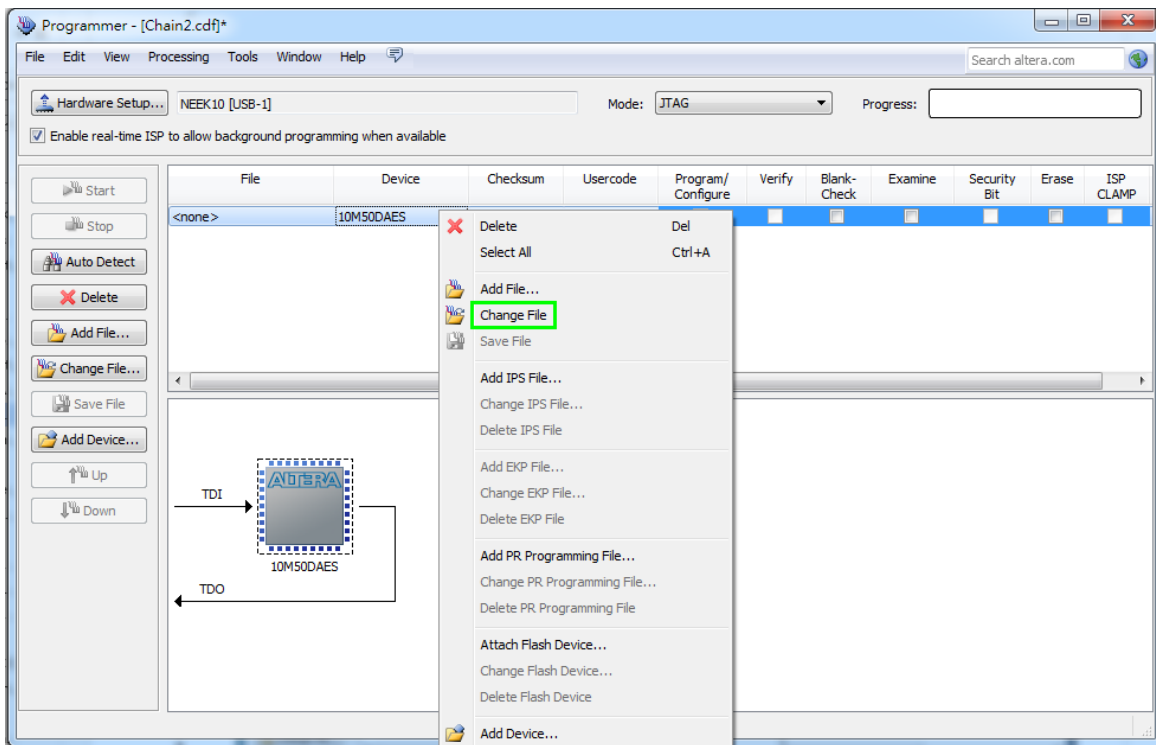

Figure 3-5 Open the .sof File to be Programmed into the FPGA Device
4. Right click on the FPGA device and open the .sof file to be programmed, as highlighted in **Figure 3-5**.